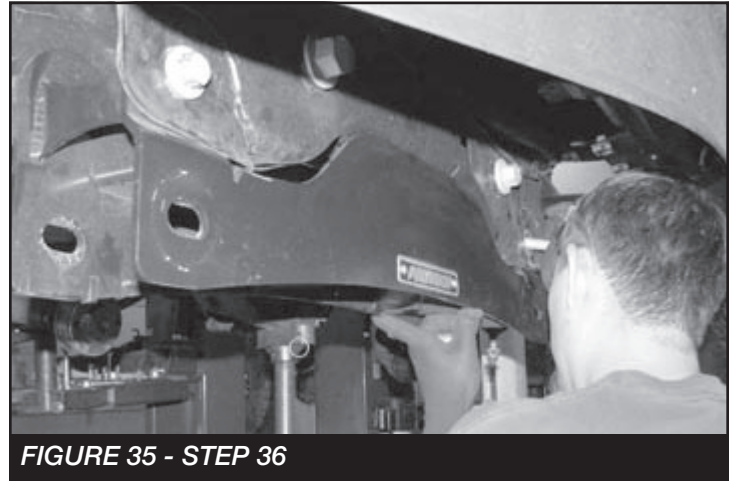

FIGURE 35 - STEP 36
36. Locate the Fabtech front crossmember (FT30489BK). Install the front crossmember into the factory front control arm pockets using the factory hardware. Make sure the skid plate tab on the crossmember is facing the Fabtech rear crossmember. Leave the hardware loose at this time. **SEE FIGURE 35**